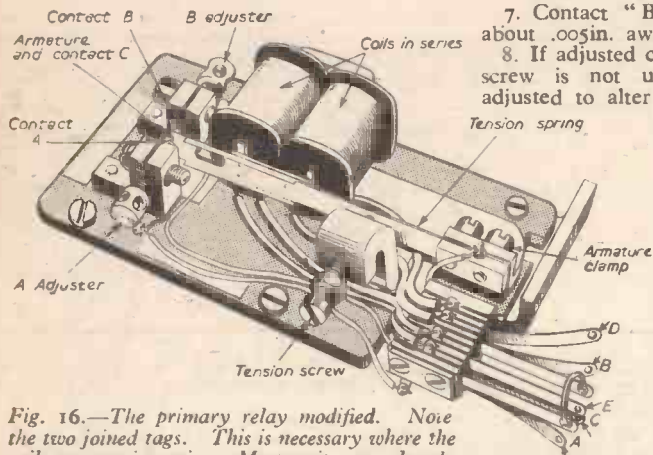

Fig. 16.—The primary relay modified. Note the two joined tags. This is necessary where the coils are not in series so wired.
It is advertised to work on 1 mA and on test worked well on 1 1/2 mA and fell out on 1/2 mA. It was tried in the prototype and worked very satisfactorily. It is cheap at 7s. 6d. and is used in one of the photographed pieces of equipment. A resistance of 1,900 Ω must be placed in series with the coil. The contacts equivalent to "A" and "B" of Fig. 16 have no tags or terminals so the author put tags under the locking screws.
It is assumed a Siemens H.S. type is used. If a new device to the reader, examine it in conjunction with Fig. 16, which shows the modified unit.
1. Undo the two screws holding the armature clamps in Fig. 16. Remove armature assembly.
2. Slip out the tension spring which is not required and not shown in Fig. 16.